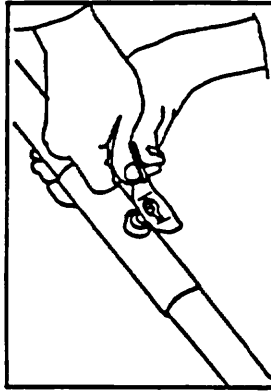

Figure 12
7) Attach the top rear wire to the rear keel bolt, making sure again that the bridle cables are outside the wire, and attach the rubber safety. (Figure 12)